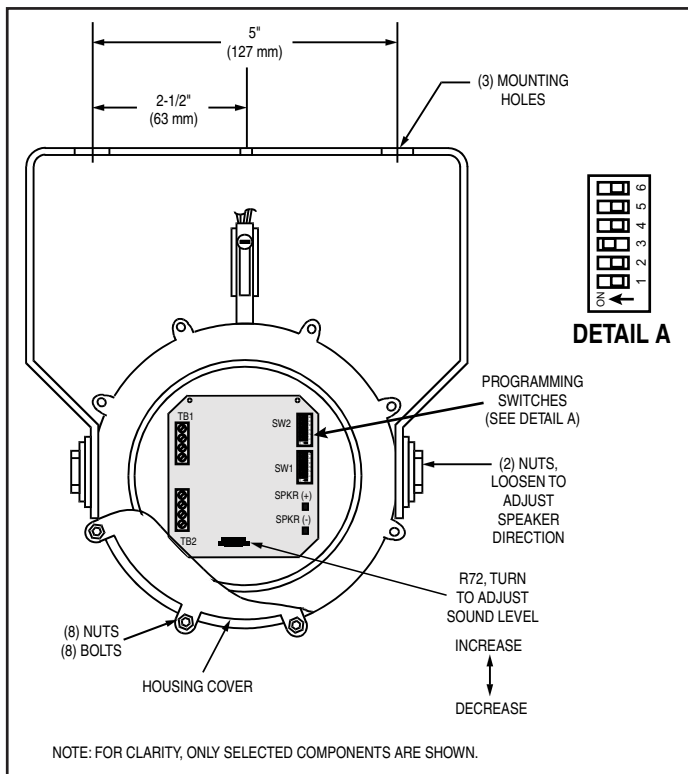

Figure 2. Adaptatone PC Board and Mounting Holes, 5533M-AQ Model Shown
3. Set miniature programming switches on the printed circuit board (Figure 2) for the desired tone. Set priority tone on SW1 and a secondary tone on SW2. Refer to tone program chart on inside cover and Table 1.
6. The sound level is factory set to maximum. Adjust volume level, if desired, by turning potentiometer R72 (Figure 2).